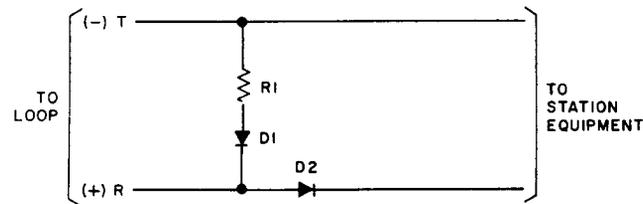

Fig. 1—Neutral Operation
2.01 Indicators for use on neutral and polar loops are shown in Fig. 1 and 2, respectively. In both cases, R1 is 100,000 ohms.